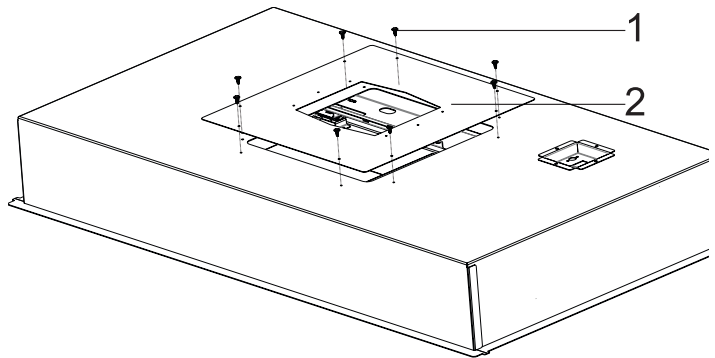

Fig. 13
5. Attach the supplied body cap plate to the lower body with 3.5 x 9.5 screws (Fig. 13).